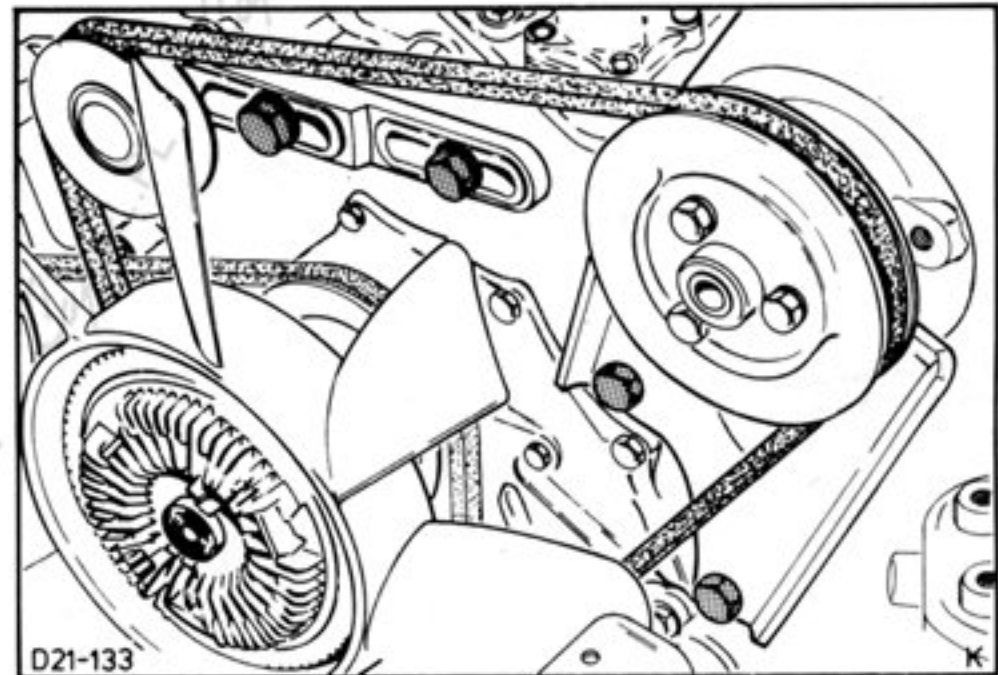

Fig.11. Remove power-steering oil pump.
12. Loosen tensioner pulley fixing screws and remove belt. Remove power-steering oil pump with bracket from the engine (3 bolts), Fig.11, place aside and secure with wire.